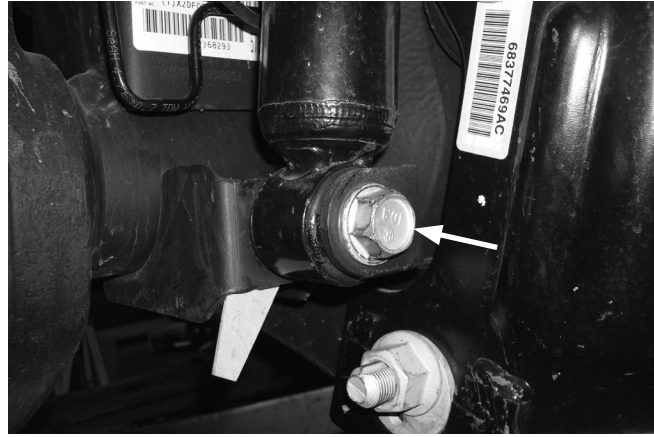

Fig. 1
1. Remove the lower shock bolts from both sides (Fig. 1).
- Raise the axle up just enough to get the shock bolt through the lower shock and shock mount. Raise the axle all the way up and torque the shock bolt to 95 lb.-ft. (129Nm) (Fig. 1).